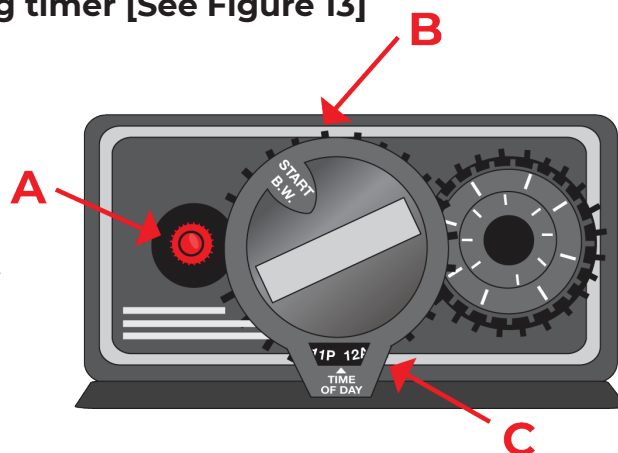

FIGURE 13 - Filter BACKWASH position
1. The ScaleSolver® outlet valve should be in the **BYPASS** position [See Page 5, **Figure 2**]. Lift off the valve cover on the filter unit and turn the control knob on your left (as you face the tank) **CLOCKWISE** to the **BACKWASH** position (notch roughly to the 12 o'clock position) [See Page 18, **Figure 13**].
To reset the weekly automatic self-cleaning timer [See Figure 13]